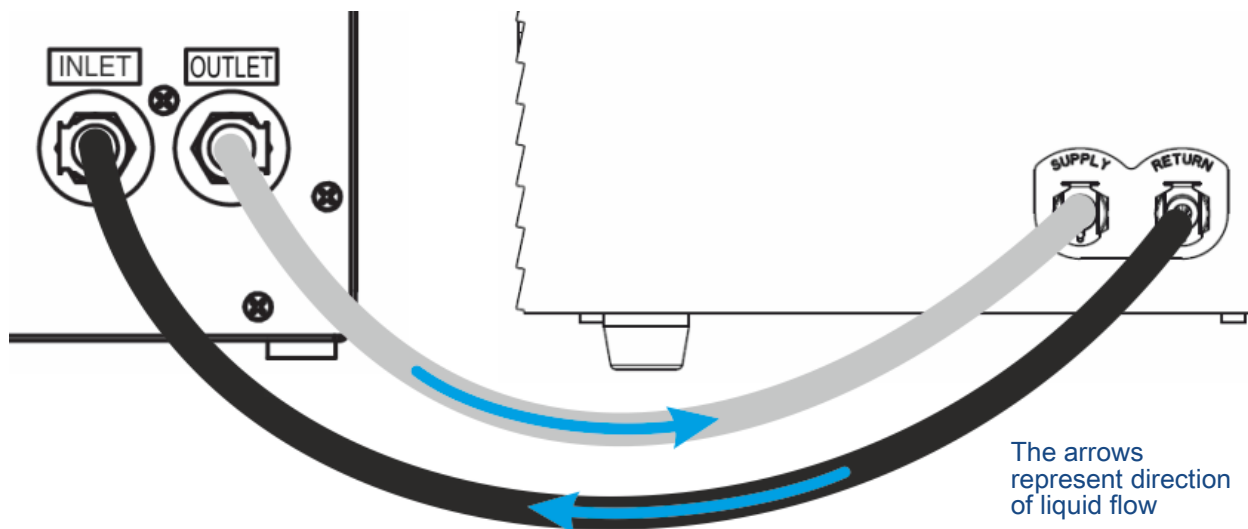

Figure 87: Connections between the integrated cooling module and the external liquid cooling device
- Connect the coolant OUTLET of the liquid supply of the external liquid cooling device to the instrument's SUPPLY port on the back of the integrated cooling module. Use the provided tube. (See figure below and Figure 87).